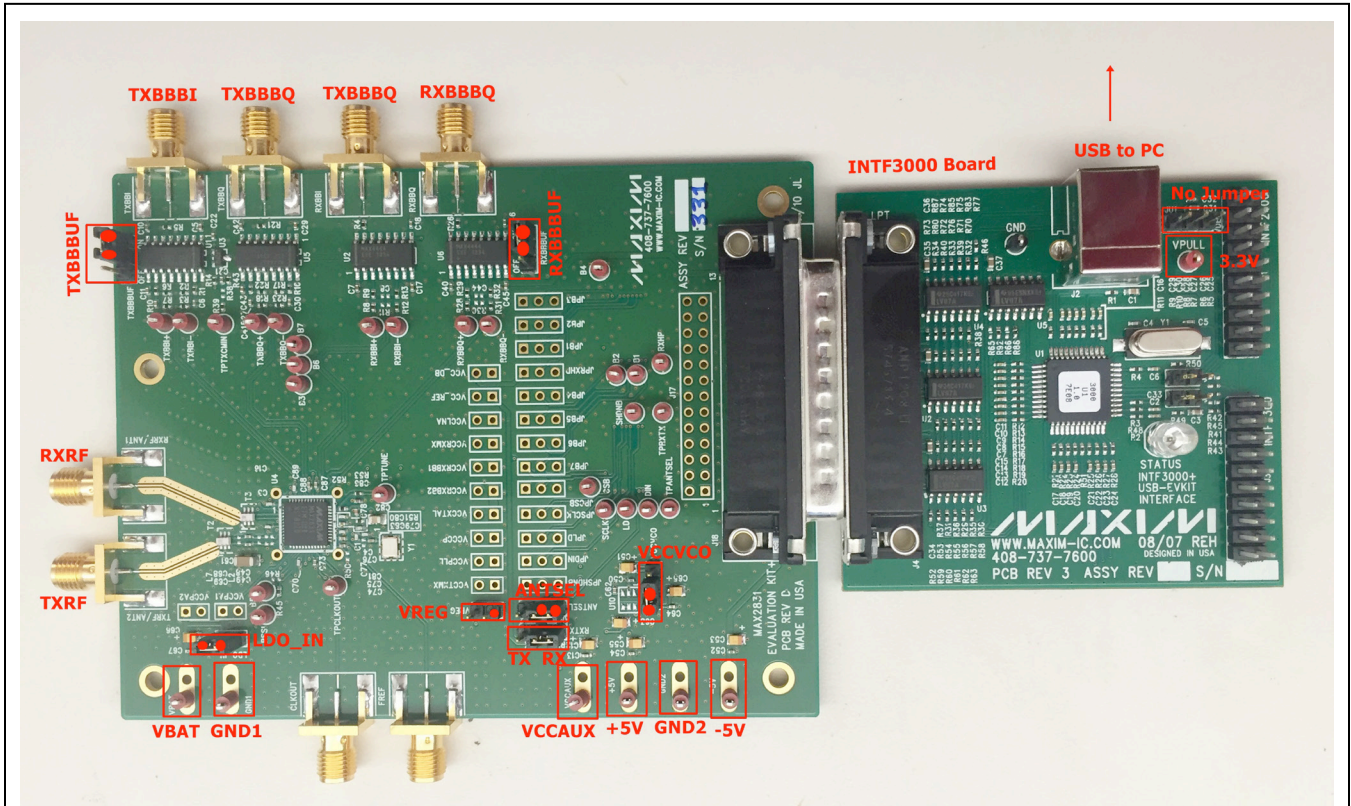

Figure 1. MAX2831 EV Kit Connections
This section provides step-by-step instructions for getting the EV kit up and running in all modes (see Figure 1 for EV kit connections):
- 4) Make sure the jumpers are installed in their default positions as shown in Figure 1.